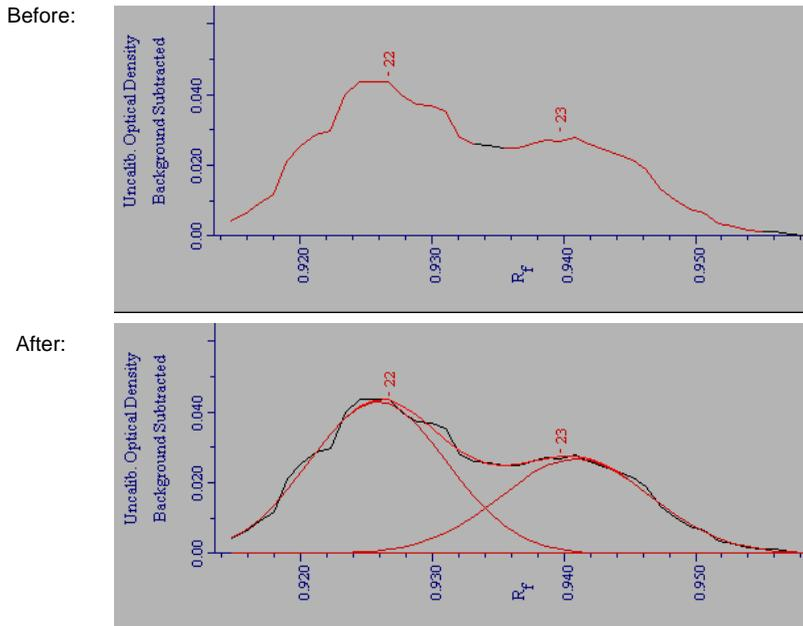

Fig. 5-13. Profiles of two overlapping bands, before (top) and after (bottom) Gaussian modeling. Modeling better resolves the band quantities.
**Plot Band** displays the Gaussian curve superimposed on the profile of the selected band. **Bands in Lane** displays the Gaussian profiles of all the bands in the lane, as shown in Fig. 5-13.